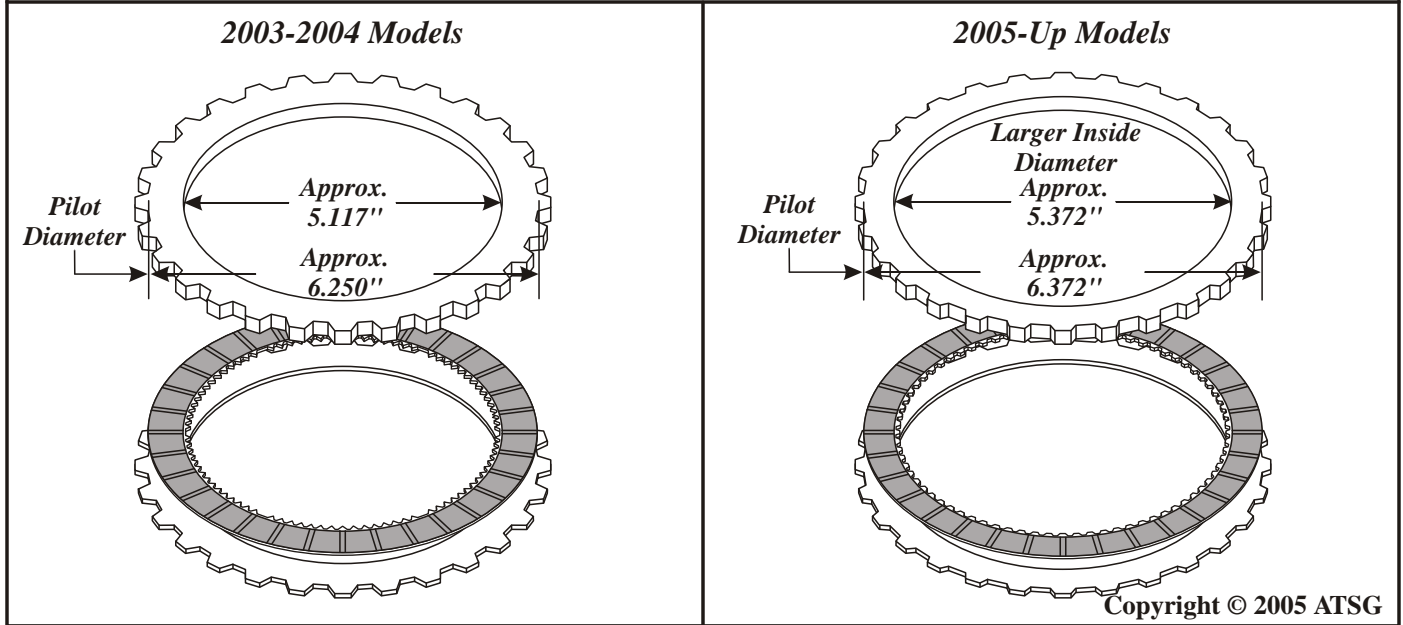

Figure 4
- (8) FORWARD CLUTCH BACKING PLATE - The inside diameter and pilot diameter increased to accommodate the increased diameter of the planetary carrier, as shown in Figure 4. The outside tooth configuration did not change.